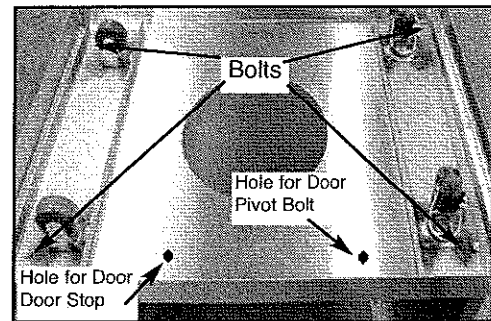

Fig. 1
1. Set 3 sided pedestal upside down. Set the base on the top of the cart assembly, with large opening closer to front portion of cart, and align the four mounting holes. Then set the 2 wheel channels on the base and attach them using the (4) bolts provided, from inside the cart upwards through wheel channels. (See Fig. 1)